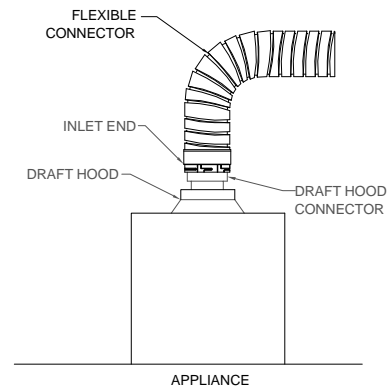

FIG. 6
5. Attach the inlet (bottom of the connector) to the appliance or to a drafthood connector (See FIG. 6).